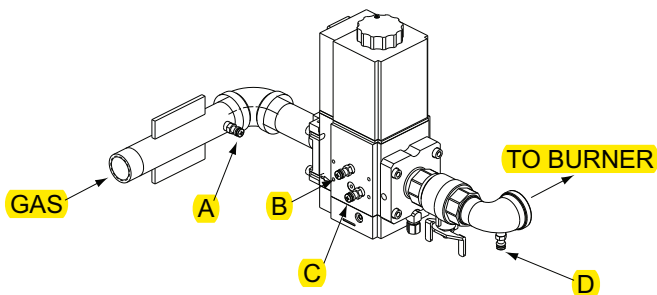

Fig. 46: Gas Pressure Measurement Locations
2. Attach (1) 12" scale manometer to an upstream bleedle valve on the gas supply pipe to the heater (Measure point "A" in Fig. 46).
3. Attach (1) 24" scale manometer to the manifold pressure tap located on the shutoff valve downstream of the firing valve (Measure point "D" in Fig. 46).